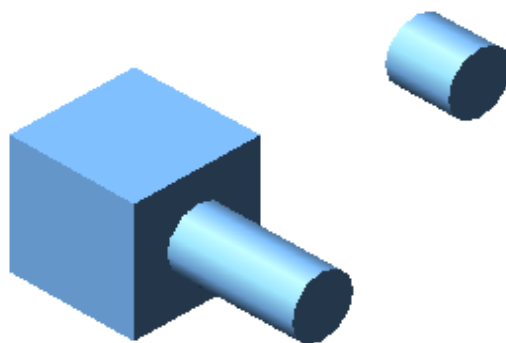

Figure Step 12
Step 12 Using the MOVE command, move the 3D Solid object created by the INTERFERE command. (Figure Step 12)